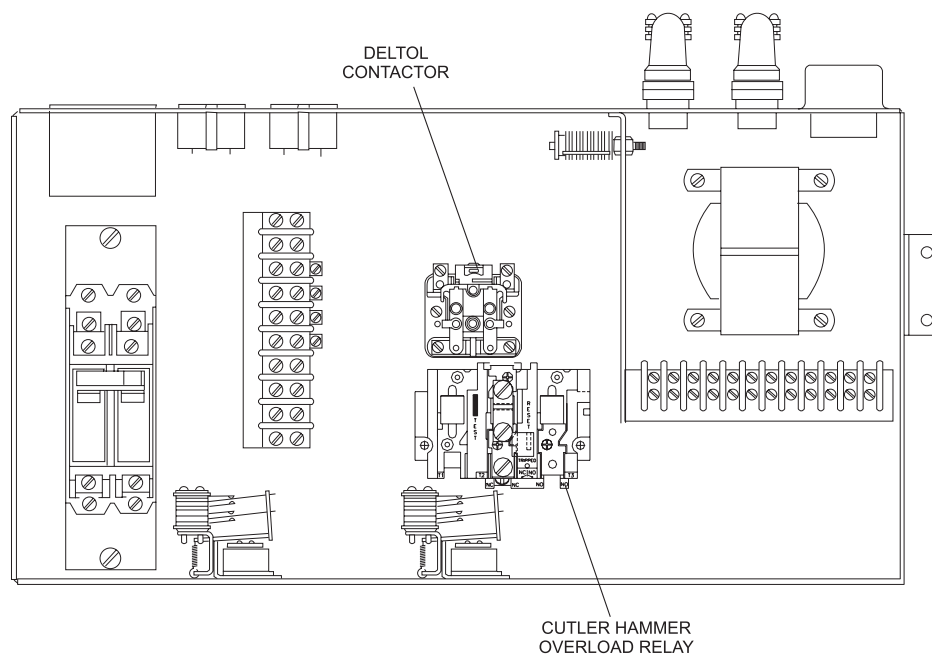

Figure 6
11. Mount the overload relay with the two 8-32 X 5/8" screws and KEPS nuts provided. Refer to *Figure 6* for correct position (use holes D.)
12. Mount the new contactor with the two 8-32 x 3/4" long screws and KEPS nuts provided. Refer to *Figure 6* for correct position (use holes C.)